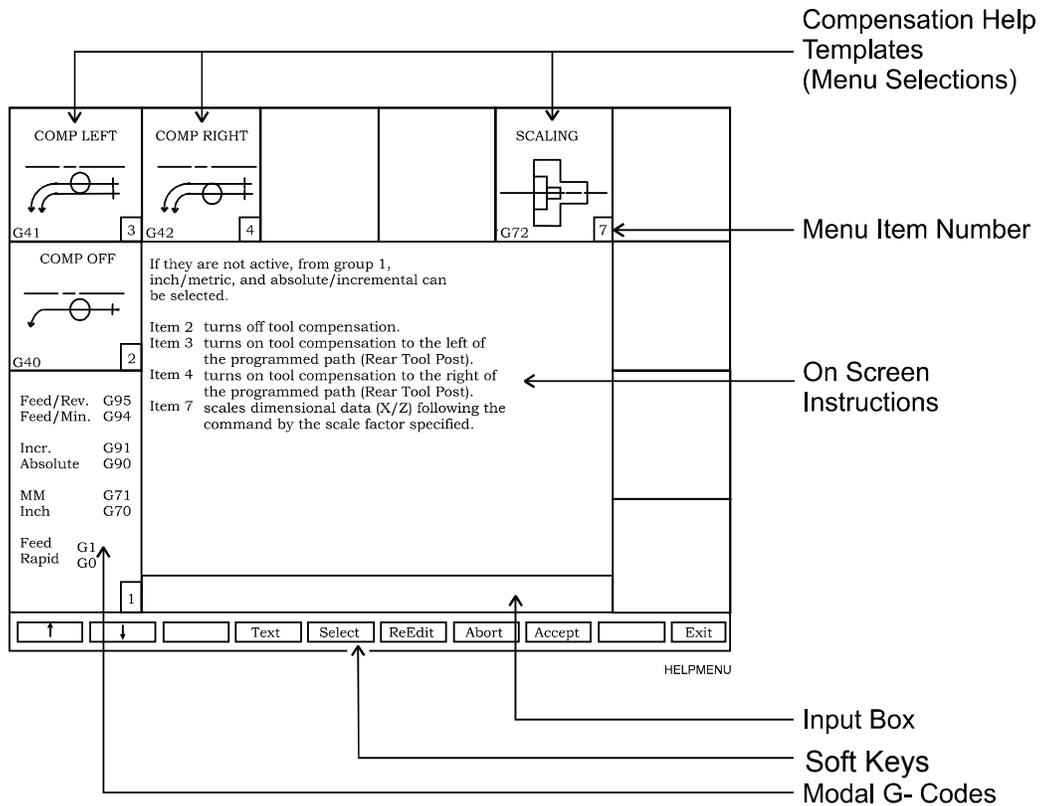

Figure 7-3, Sample Help Template Menu
2. Highlight **2 (Compensation)**, and press **ENTER**. The Compensation Help Template Menu activates. Refer to Figure 7-3, Sample Help Template Menu.
Selecting a help template from the Edit Help Menu activates the Help Template Menu for the selected move type or Canned Cycle. (Refer to Figure 7-3, Sample Help Template Menu). Help Template Menus are available for the move types described in **Table 7-6**.
- Help Templates** Menu items containing available move types and Canned Cycles. When selected, these templates activate a Help Graphic screen. (Help Graphic screens contain instructions for inputting commands into the Program Listing.) Help template menus are available for the move types listed in Figure 7-3, Sample Help Template Menu.